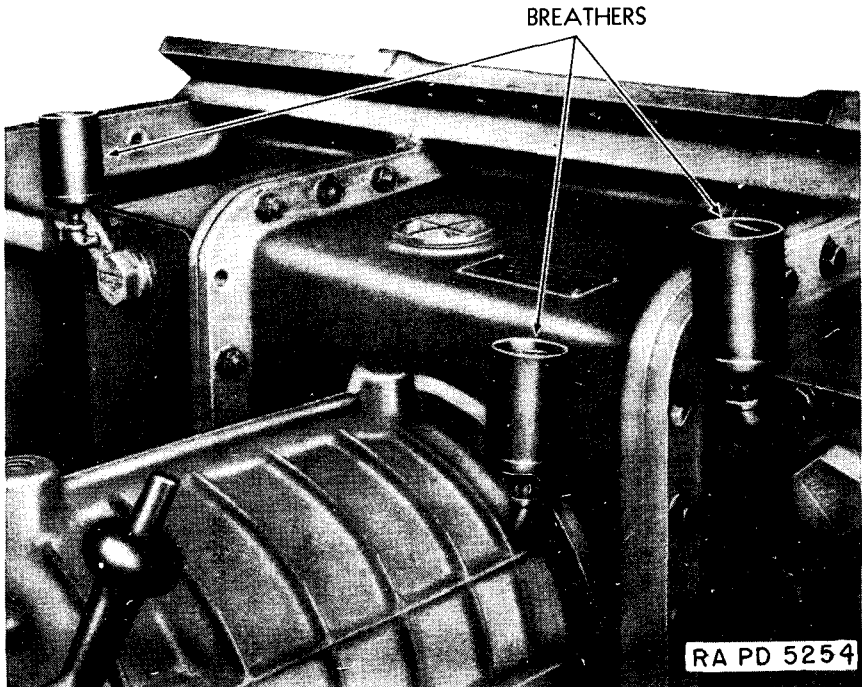

FIGURE 3 — BREATHERS USED ON POWER TRAIN
e. There are three breathers on the unit; one in each steering brake housing and one in the transmission housing serving the transmission and differential (fig. 3).